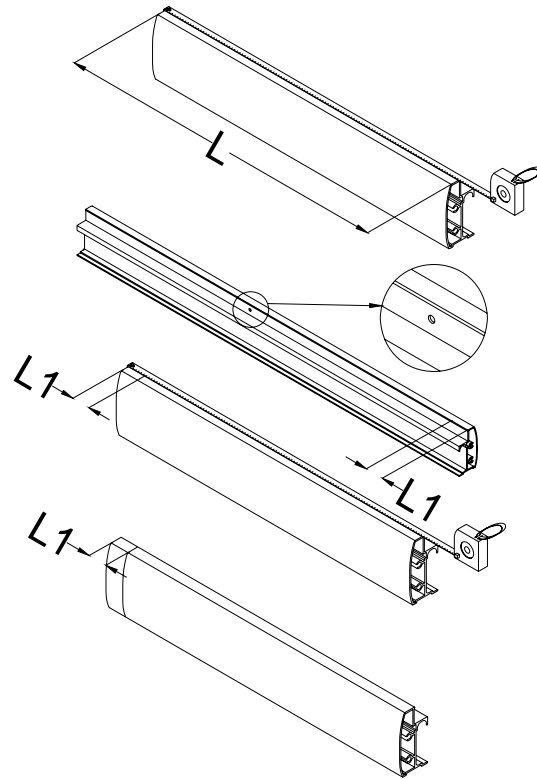
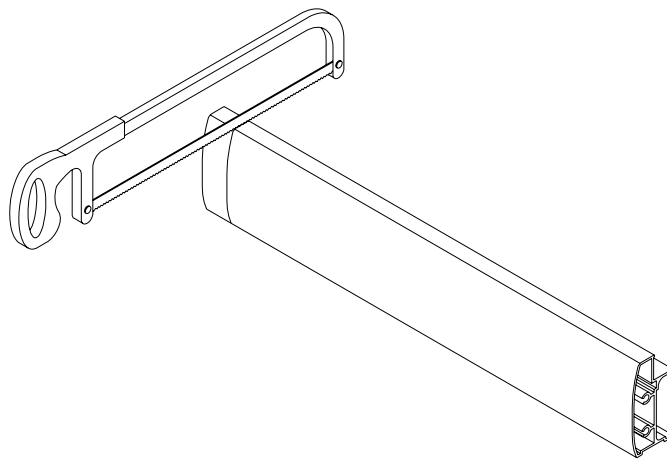

Fig 2
Fig 3
2. Measure the length of the guide rail which is L, if $(L + 3\frac{1}{2}'') \leq W \leq (L + 5'')$, there is no need to cut the guide rail, you can go to Step 4. If $W < (L + 3\frac{1}{2}'')$, then you need to cut one side of guide rail which is farther from the glass holder hole. The cutting length will be L1; $L1 = (L + 3\frac{1}{2}'' - W)$. See Fig 2 and Fig 3 for details.